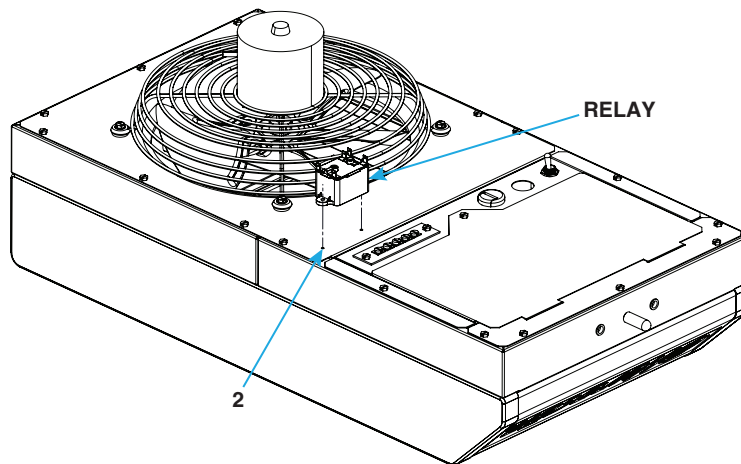

Figure 4. Relay Installation—Model H (Refer to Table 2)
- b. For destratification fan model H, disassemble relay assembly (1) by removing relay from bracket and secure relay as shown in **Figure 4** using two screws (2). Bracket will not be used.